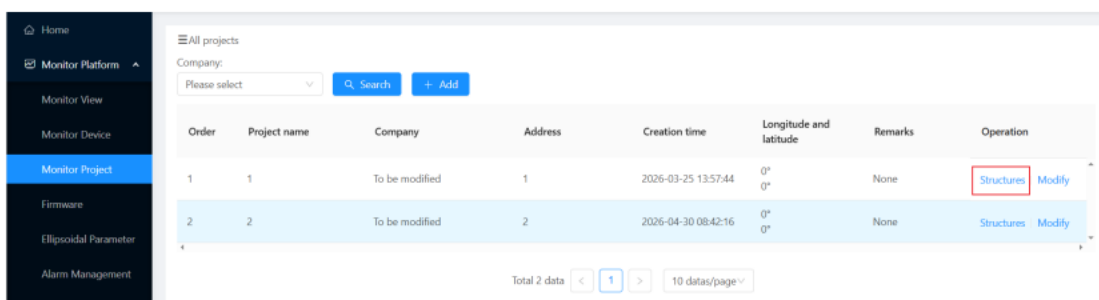
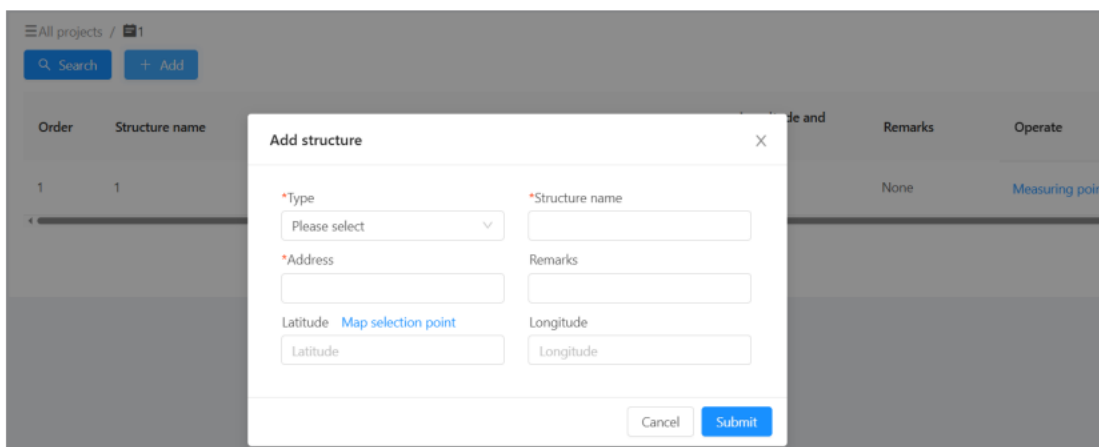

Figure 3-30
Figure 3-31
(2) After the project has been added, start adding structures. Click **Structures** (Figure 3-30) to enter the submenu, then click **+ Add**. Fill in the required fields: "Type", "Structure Name", "Address", and optionally "Remarks" and latitude/longitude information. Click **Submit** to complete the operation, as shown in Figure 3-31.